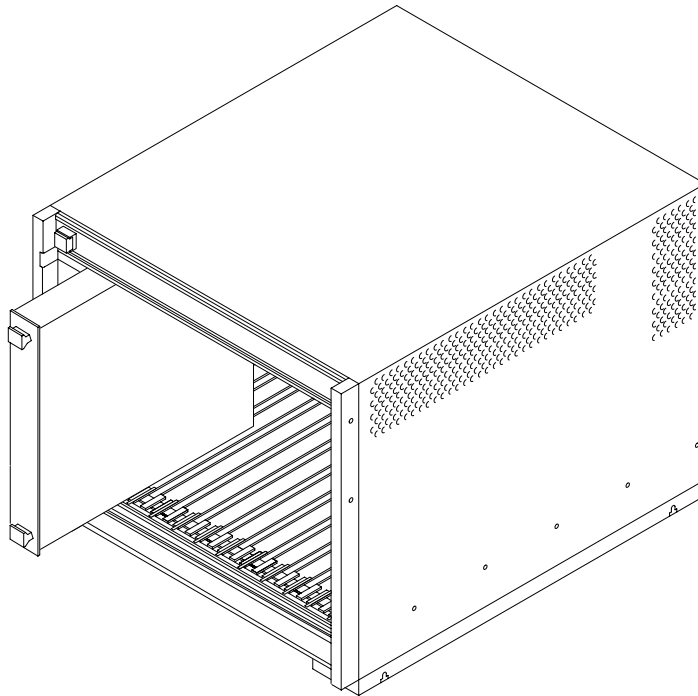

Figure 1-4: Module Installation
5. Insert the module with the Option 01 installed into one of the instrument slots of the mainframe (see Figure 1-4). Refer to the User Manual for the switching module for detailed installation instructions.